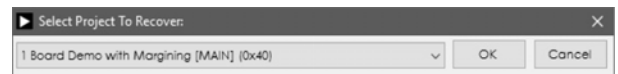

Figure 6. Project Recovery Prompt
9. The prompt shown in Figure 6 appears. Click **OK**.